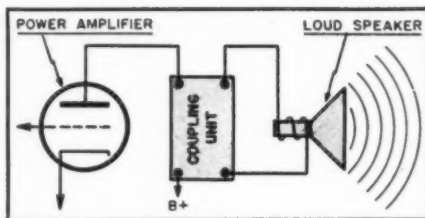

Fig. 1. Tube used to operate speaker.
**T**HE operation of all practical forms of loudspeakers in common use in radio receivers and sound amplifier systems (see Fig. 1) depends upon the fact that a varying current flowing through their actuating windings produces motion of some sort of diaphragm which results in the production of sound waves. This varying signal current flowing through the loudspeaker winding constitutes a supply of *electric power* that is being delivered to it for its operation.
Since it is the *electric power* of the amplified signal fed to it that actuates the loudspeaker, the function of the tube or tubes immediately preceding the loudspeaker is to deliver the maximum possible amount of *undistorted signal power* to the loudspeaker. For this reason they are called the *power amplifier tubes*, or simply the *power tubes* of the amplifier (Fig. 1).